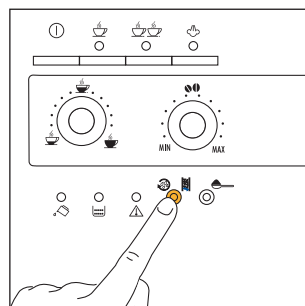

Fig. 14
1) If, when the machine has just been turned on, a short cup of coffee is required (less than 60cc), use the hot rinsing water to pre-heat the cups (see the suggestion in par. 4.3, point 5). If, on the other hand, more than 2/3 minutes have elapsed since the last coffee was made, before preparing **another coffee the infuser must be pre-heated, pressing the ☕☕ button** (Fig. 14).